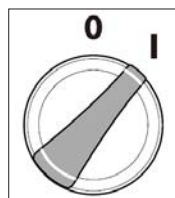

Fig.10
- iii) Turn on the appliance by turning the “OFF/ON” switch to the “ON” position (Fig.10)